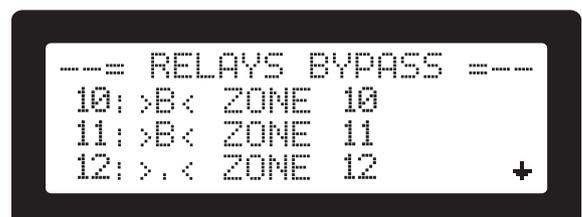

Figure 32. Bypassed relays activation screen
- Press **<3>** to select menu item **[3. Bypass Relays]**: The list with all available zones with relays is displayed (see Figure 32).